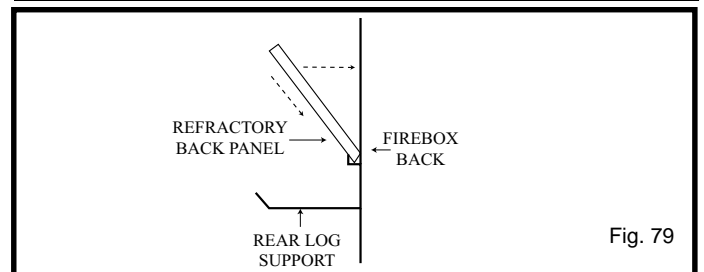

Fig. 79
4. Place back refractory - small brick edge down into support (See Fig. 79).